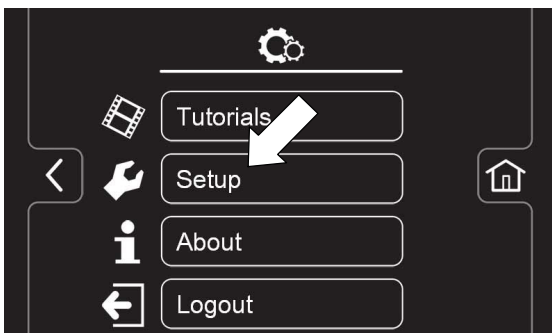

FIG. 138
3.  Press the Setup button to access the Setup screen (Figure 138). The Setup screen is only accessible with an assigned supervisor login number.